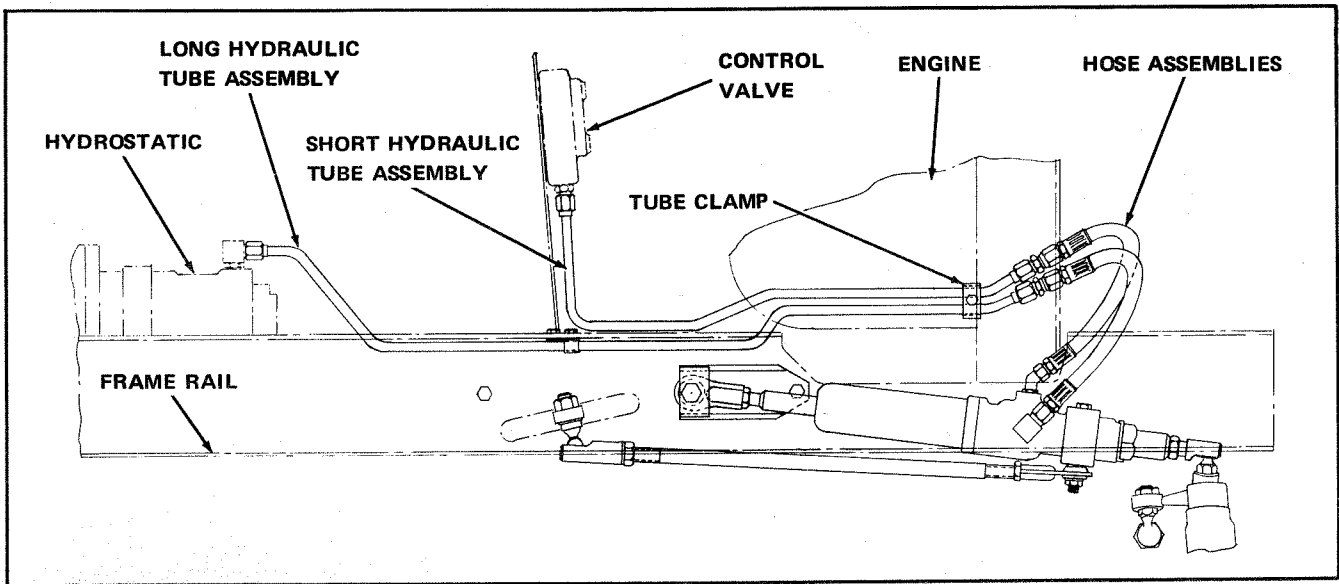

Figure 3
5. Install short tube assembly. Connect to port on control valve from which hydrostatic line was removed in step 3. See figures 3 and 4.
6. Remove hex capscrew from lower Right Hand corner of engine shroud; see figures 3, and 5. Place one composition washer under both tubes in a vertical position at this point. Place second composition washer over both tubes in a vertical position and secure with double tube clamp, hex capscrew 1/4—20 x 1-1/4 and lockwasher; see figures 3 and 5.